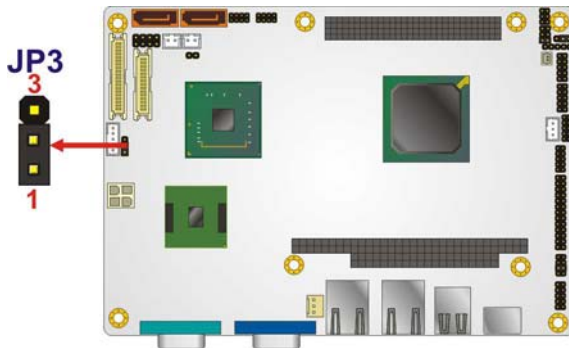

Figure 4-7: LVDS Voltage Selection Jumper Pinout Locations
- Jumper Location:** See Figure 4-7
The LVDS Voltage Selection jumper location is shown in **Figure 4-7**.